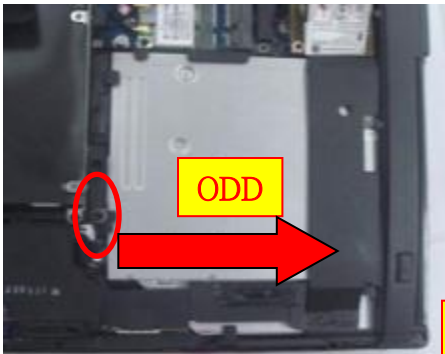

Fig.1
1. Loosen ODD set screw * 1. (Fig.1)
2. Slide the ODD to the right, then remove the ODD from the base. (Fig.1)